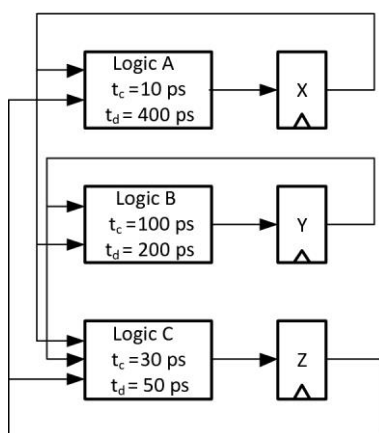

Fig. 1
9. (12%) For Flip-Flop A in Table 1 (used for DFF X, Y, Z), and a 2 GHz clock, check the Fig. 1 (the symbol “ t_c ” represents the logic contamination delay, while “ t_d ” represents the logic propagation delay) for timing violations.